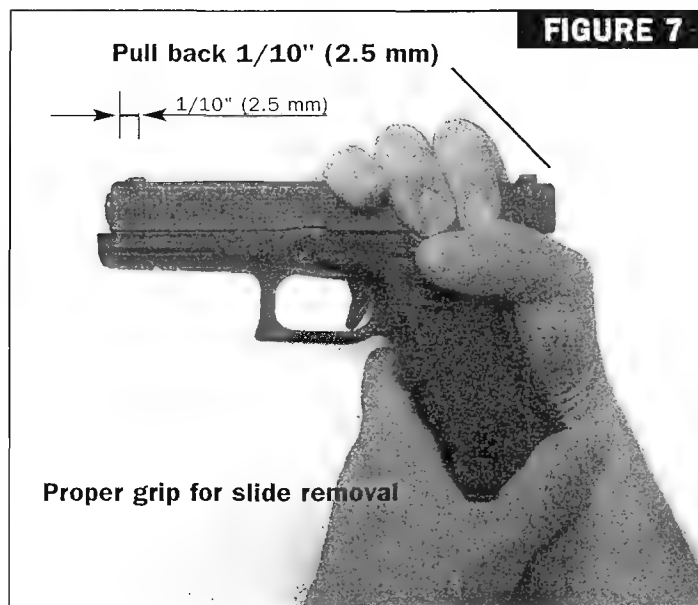

FIGURE 7
- Hold the pistol in either hand so that four fingers grasp the top of the slide as shown (Fig. 7). With these four fingers, pull and hold the slide back approximately 1/10 inch (2.5mm).